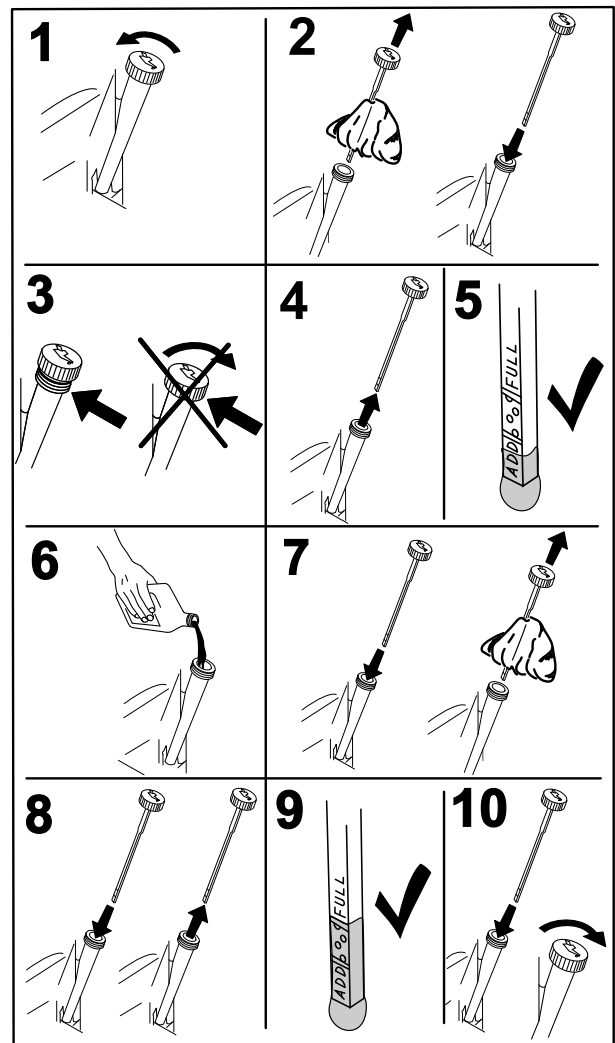

Figure 42
2. Stop the engine, remove the key, and wait for all moving parts to stop before leaving the operating position (Figure 42).